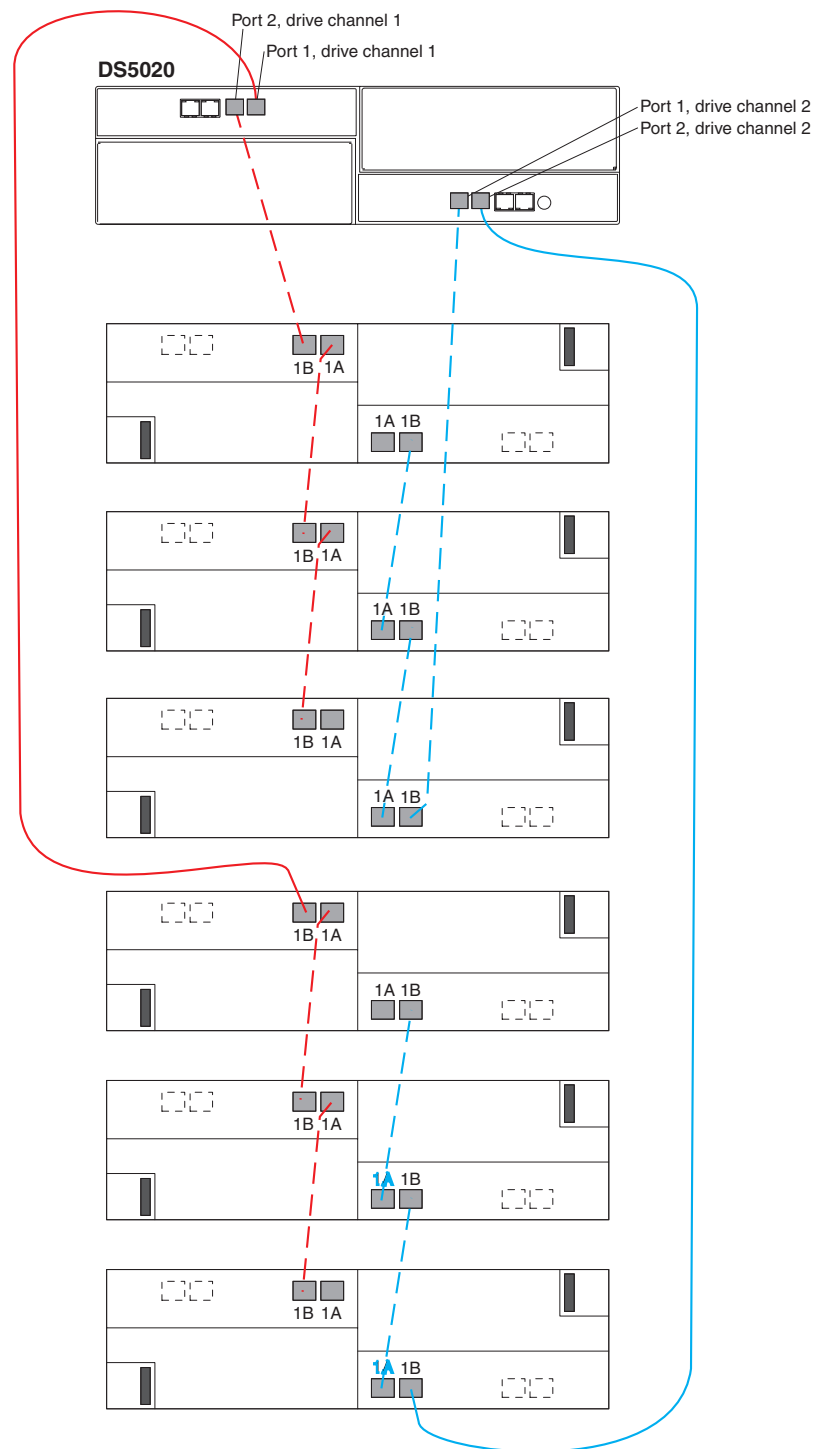

Figure 42. Cabling for one DS5020 and up to six storage expansion enclosures
If you are cabling one DS5020 storage subsystem and up to six storage expansion enclosures, Figure 42 shows the correct cabling topology.
7. When connecting six storage expansion enclosures to a DS5020, use all ports in both drive channels. See Figure 42 on page 64 for the cabling topology.